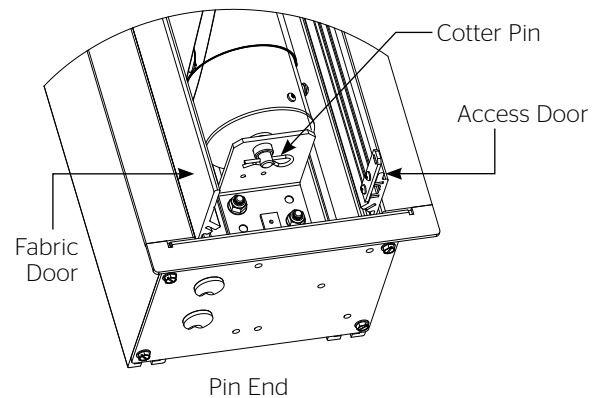

Figure 3
4. Lift the pin end (right end) of the roller into position and slide the bracket onto the roller pin and secure with the cotter pin.. Tighten two nuts to secure the bracket. See figure 3.